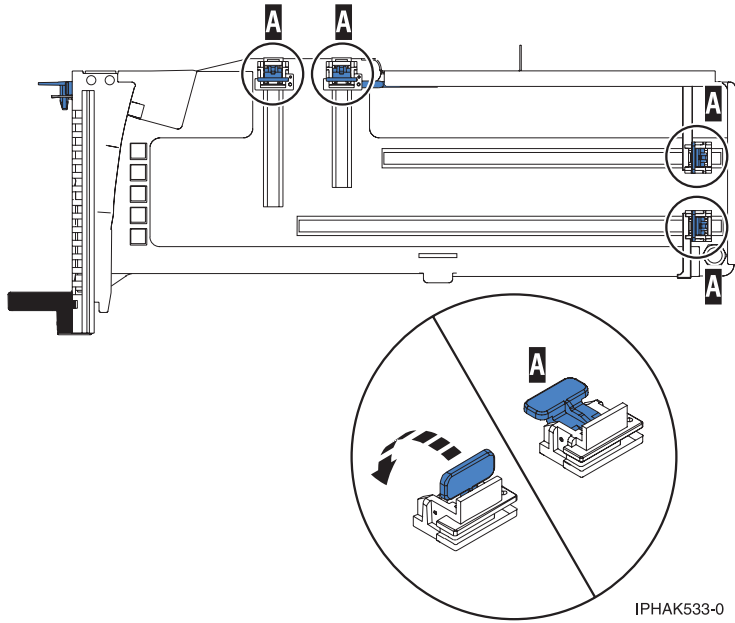

Figure 55. Adapter retainers
- b. Ensure that all of the adapter retainers (A) have been pushed out to the edges of the cassette to allow the placement of the adapter. See Figure 55.